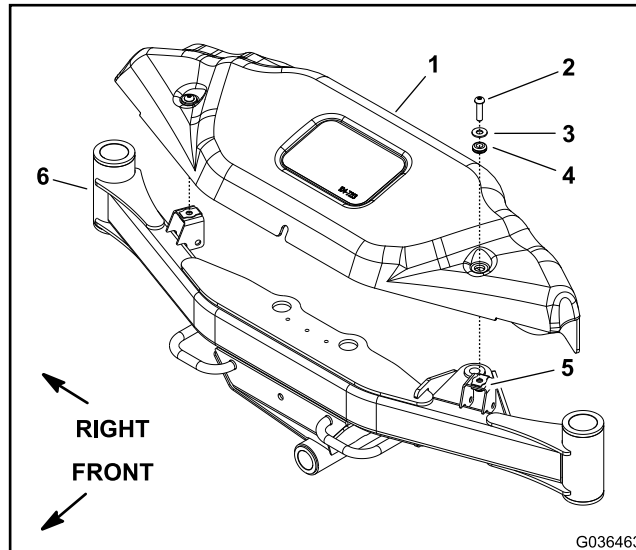

Figure 146
2. If the front steering cylinder is to be removed from the machine, remove the front cover from the front axle to get access to the front steering cylinder (Figure 146).
- 12. If removed, secure the front cover to the front axle (Figure 146).